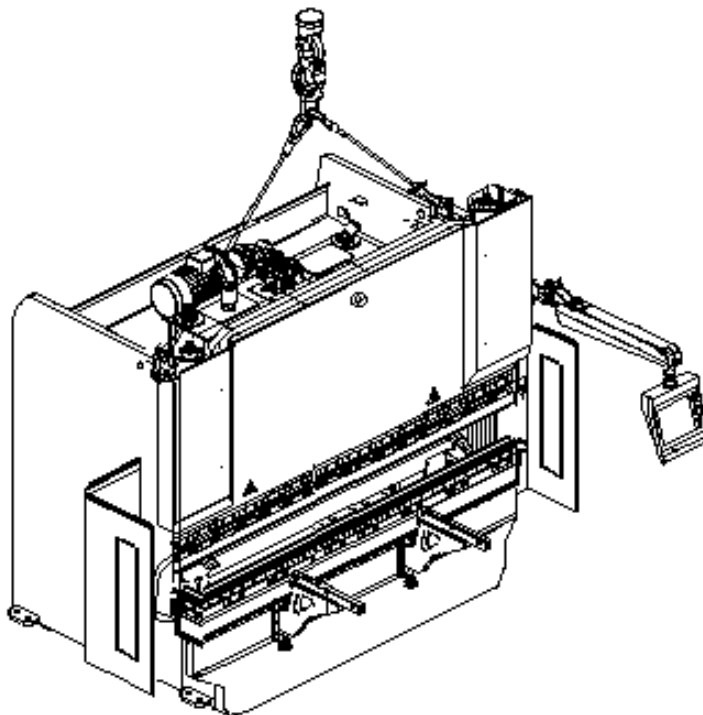

Figure-10
- There are two lifting points, right and left from the upper points of the lateral bodies (Please see Figure-10).